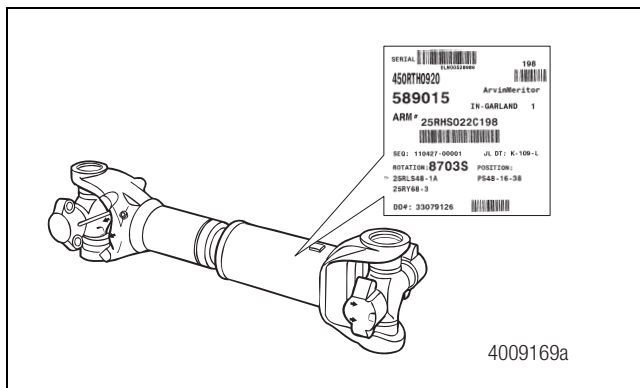

Figure 1
- Identify the appropriate shaft or shafts to be removed from the vehicle. Both the original and replacement shaft will have a tag adhered to the tube indicating the part number. Identify the correct shaft(s) by matching the part number and chassis number. Any given vehicle may have anywhere from one to three shafts to be replaced. Figure 1.